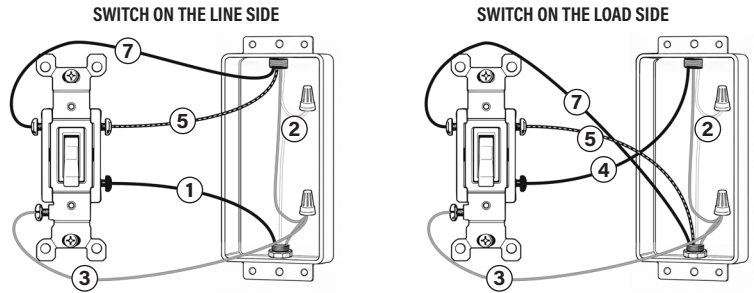

Figure 5
3. Remove and label the Load wire (4) from the COMMON Terminal. (Figure 5)
4. Remove and label the Traveler 2 wire (7) from Line side switch HOT Terminal.